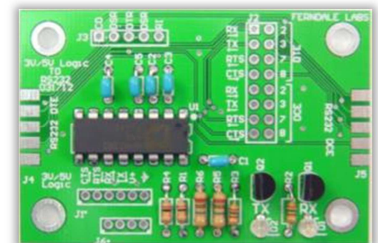

Figure 7 IC and LED installed
- Install the IC U1 which is 16 pin DIP package marked as Analog Devices ADM3202 on the top. This part must be oriented correctly. Look at the IC from the top – there is a notch at the top with a small circle to the left. Now look at the PC board white marking – there is a white dot and the U1 marking. The dot on the IC and the dot on PC should be next to each other. Sometimes the pins on DIP packages are skewed out and it's difficult getting all 16 pins into the holes. I usually take the part between my fingers and put it with the side against a flat surface like a table to gently bend the pins inwards. Observing the correct orientation put the IC into the 16 pad holes and make sure that all the pins came through the pads. Now solder two pads that are on diagonal from each other. (Pin 1 and pin 9 for example). With your fingers pushing against the part, reflow the solder on both pins so that the part is properly seated on the PC board. Double check that the part is oriented with pin 1 dot next to the PC silkscreen mark. Now solder the remaining 14 pads. You do not need to trim the leads on the IC. At this stage, the board should look like Figure 7.